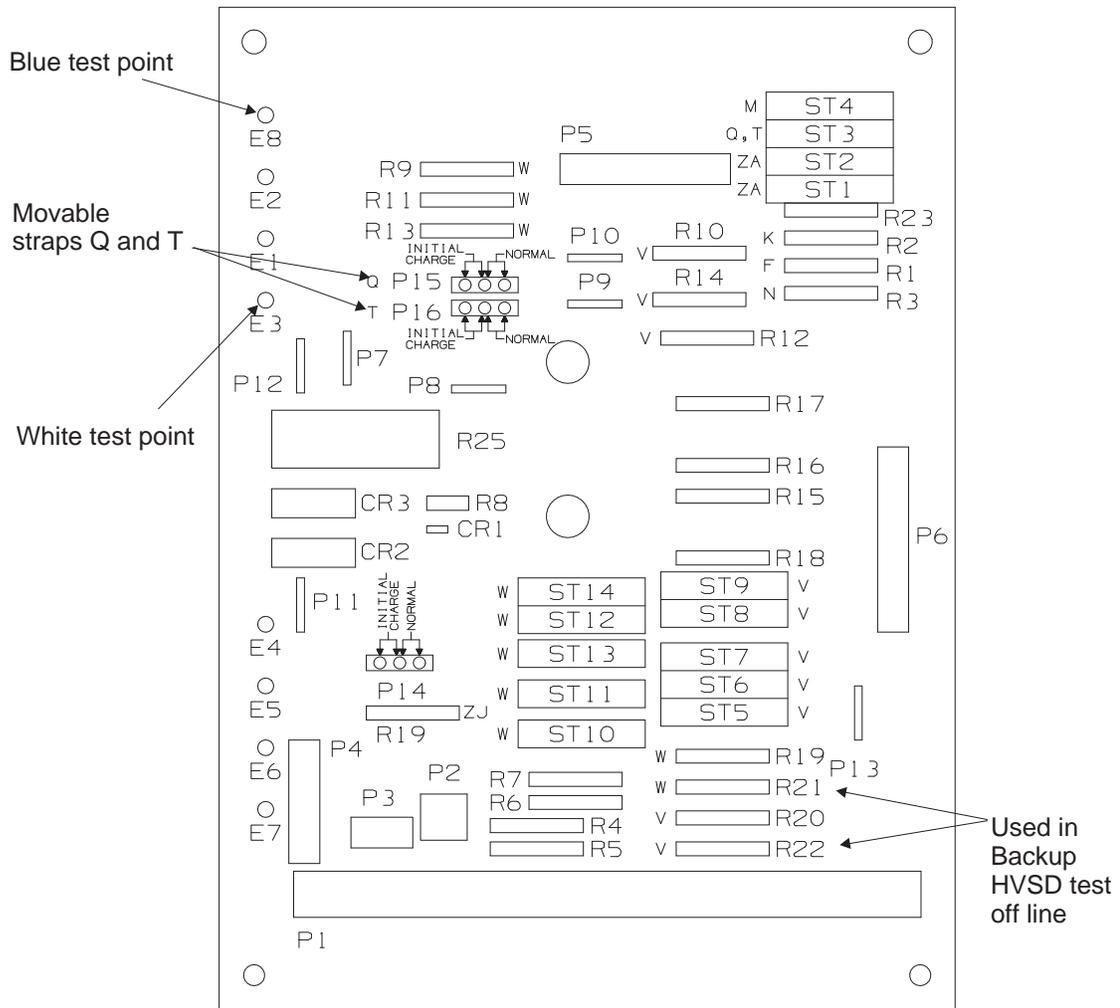

Figure 6-2: CM1 Option Board Showing Test Clip Connections and Movable Straps
2. Move the strap P14 and the straps provided for options “Q” and “T” on the **CM1** option board from normal position to initial charge position as shown in Figure 6-2.
4. Place the Battery Plant Simulator Test Set (Figure 6-1), at a convenient location near the rectifier. Connect **J2A**, on the other end of the cable from the test set, to connector **P2A** on the **CM2** control board mounted on the inside of the rectifier door. Connect the red, black, blue, and white test clips from the test set to the **CM1** and **CM2** boards in the rectifier as detailed in Table 6-B. Refer to Figures 6-2 and 6-3.
2. Disable the internal selective shutdown by moving the Q (**P15**) or T (**P16**) movable straps on **CM1** to the Charge position. (See Figure 6-2 and refer to Table 8-B for options.) Verify that moveable strap P14 remains in the 2-3 (NOT the Charge) position for this test and after the rectifier is placed into service. The P14 Charge position is only used to raise the Backup HVSD level of the rectifier when it is being used for applying the initial charge to connected batteries.